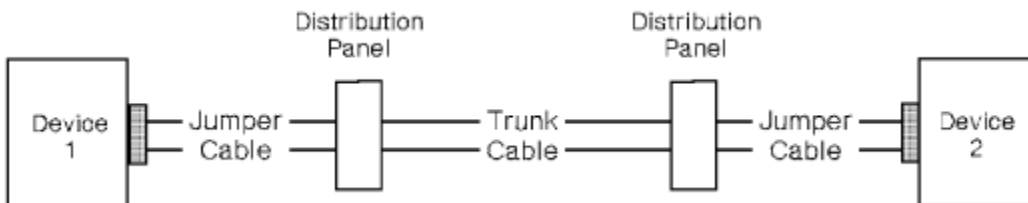

Figure 37. Link configuration 3 consisting of 2 jumper cables, a trunk cable, and 1 or 2 distribution panels
- Two jumper cables, each connected to a distribution panel, and a trunk cable (Figure 37 on page 20).